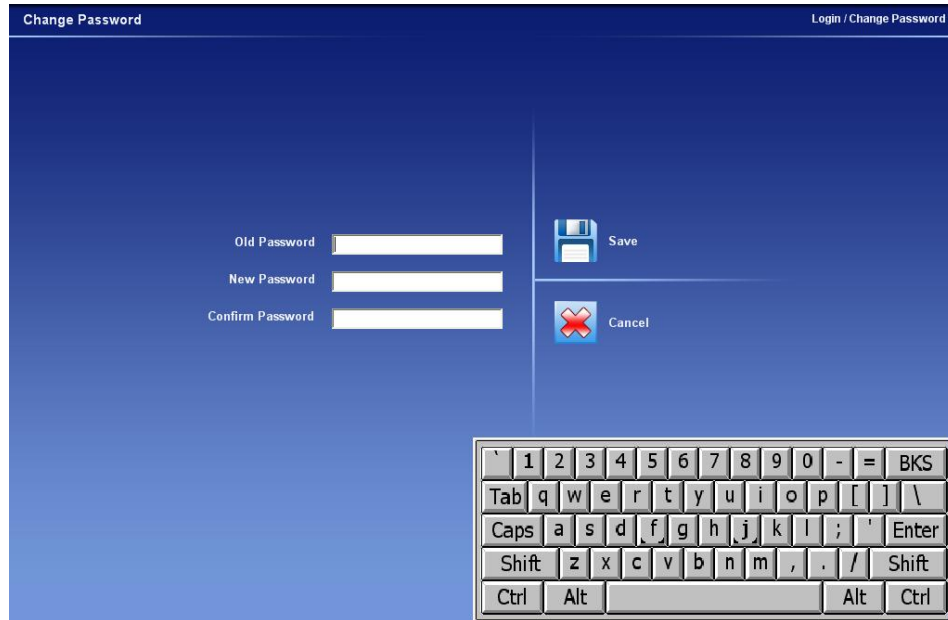

Figure 8 – Change Password Screen
- The Change Password screen will be displayed (See **Figure 8 – Change Password Screen**). The **Old Password** field will be populated automatically by the default password, and the cursor will be in the **New Password** field.
3. The Change Password screen will be displayed (See **Figure 8 – Change Password Screen**) with the **Old Password** field automatically populated by the default password, and the cursor will be in the **New Password** field. Type the new password in the **New Password** field, and then tap the **Tab** button once. The cursor will move to the **Confirm Password** field.